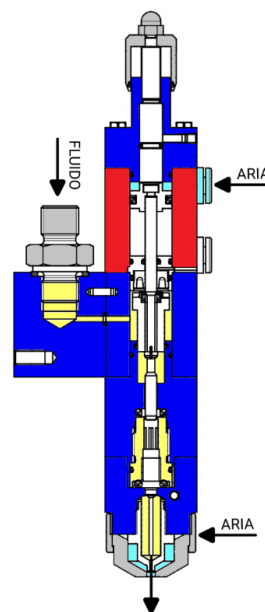

Figure 05 – Dosing phase
- The movement of the needle allows the passage of the fluid and begins to come out being nebulized by the spray air (Figure 05);